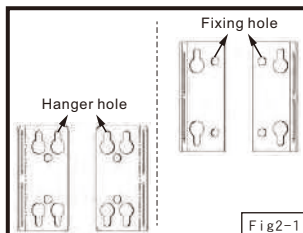

Fig2-1
3. Select suitable position for installation, drilling hole on the wall by using $\frac{1}{4}$ " thread bit and put screw lock in side the hole to fit wooden screw with matching hanging hole. Hang machine onto screws and the fixing holes must be screwed on the wall (Fig2-1).